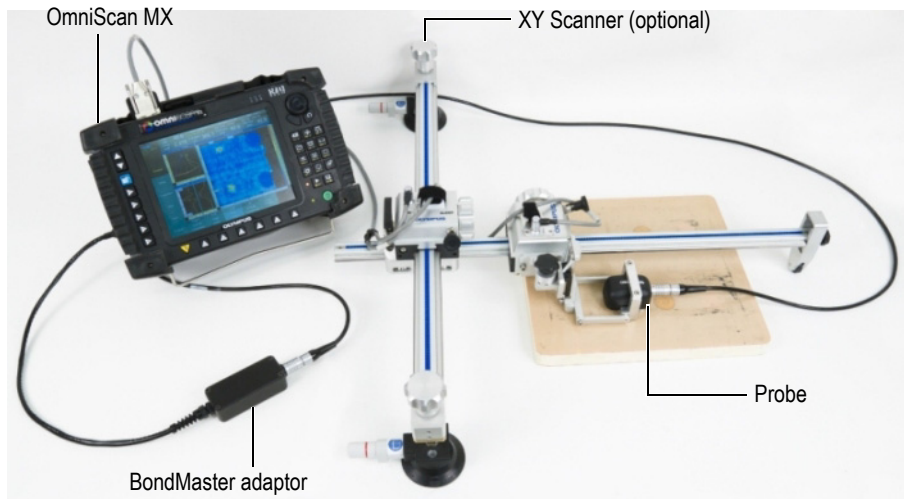

Figure 1-6 The OmniScan Bond Tester's component connections
- WING scanner V1 (U8750016). See Figure 1-3 on page 25 and Figure 1-6 on page 26. This is recommended equipment that is not included.
Figure 1-6 on page 26 contains an example of component connections on a typical inspection setup.